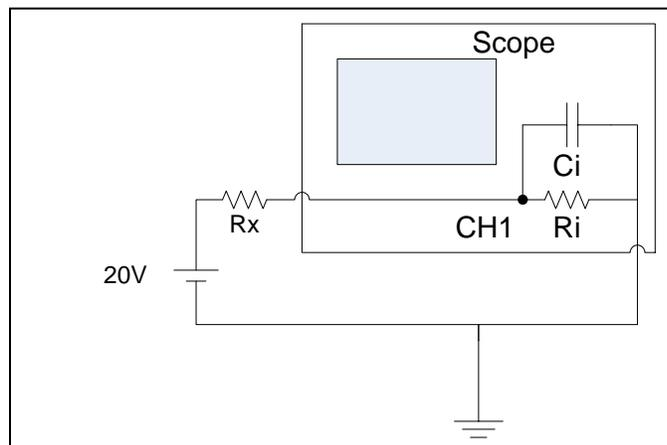

Fig. 5.10 An unknown resistance connected to an oscilloscope
14. Connect the circuit shown on Fig. 5.10. Set the input coupling to DC. Use the circuit to calculate the unknown resistor  $R_x$ . Compare this with the color code.